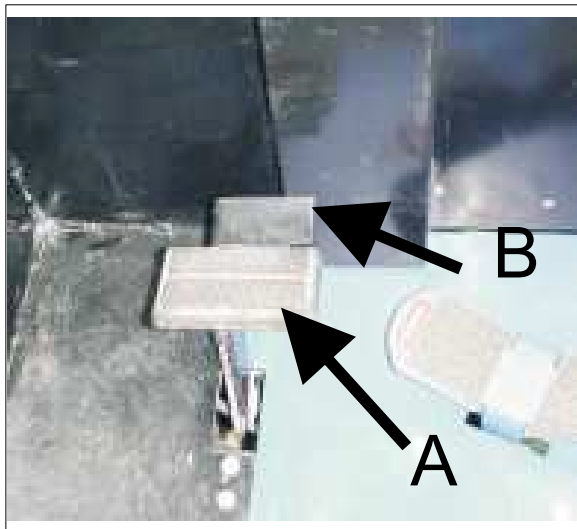

Figure 16
**PARKING BRAKE (See Figure 16)**